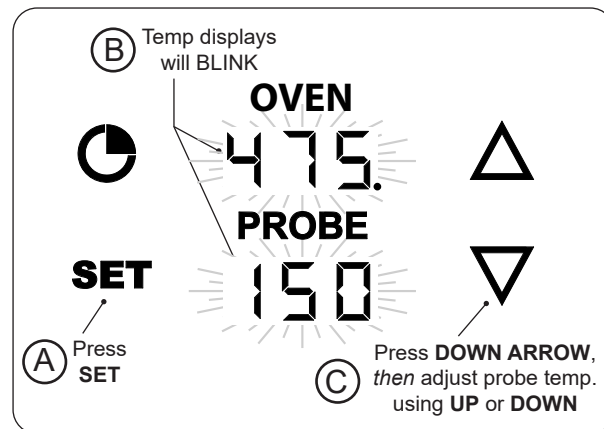

Fig. 41-2 Set probe temperature
1. With the thermometer **on** and the meat probe plugged in, press the **SET** button once. The OVEN and PROBE displays will blink. (While blinking, either area can be selected to enter their settings.) See Fig. 41-2, A and B.
2. Press the **DOWN ARROW** to select the probe settings, then you may use the up or down arrows to set the desired temp (Fig. 41-2, C).